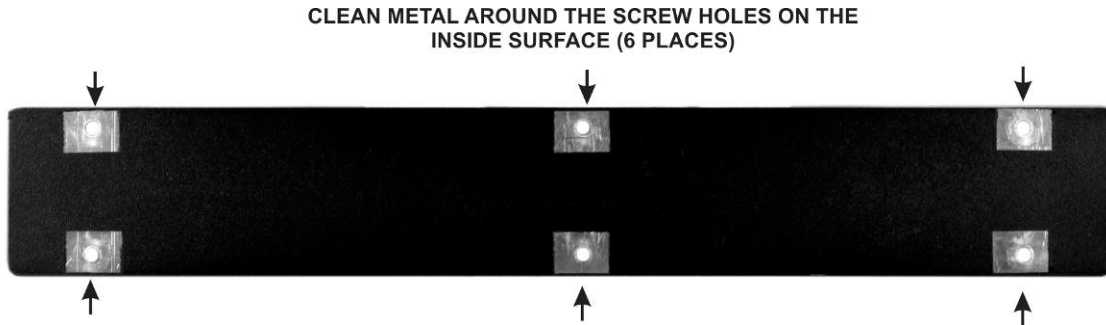

Figure 36. Preparing Side Panels for Installation.
- Locate the side panels and clean any tape or residue from the areas around the screw holes on the inside surface as shown in Figure 36. Check and clean both side panels.